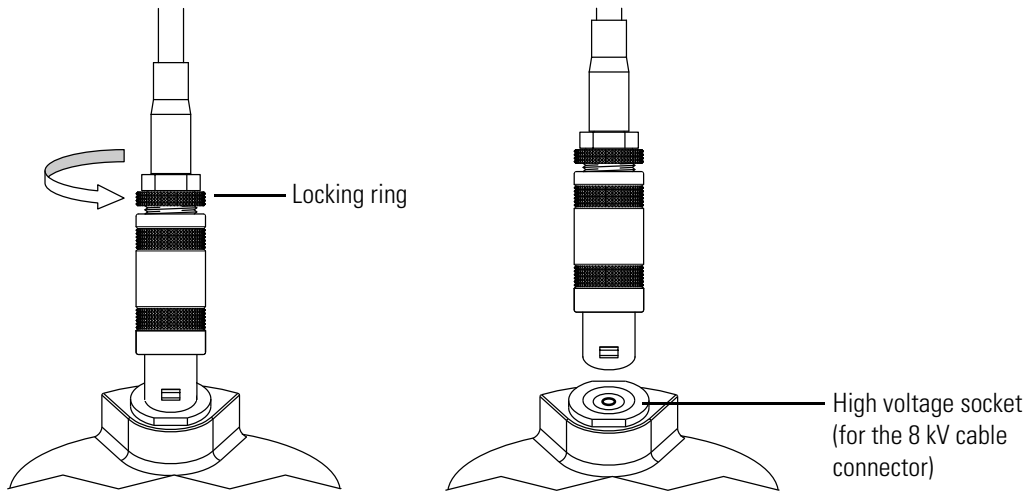

Figure 8-16. 8 kV cable connector (enlarged view)
3. Disconnect the 8 kV cable from the probe high-voltage receptacle (Figure 8-16):
9. Connect the 8 kV cable connector to the 8 kV cable connector socket on the probe. Tighten the locking ring (see Figure 8-16 on page 8-32) on the 8 kV cable connector.